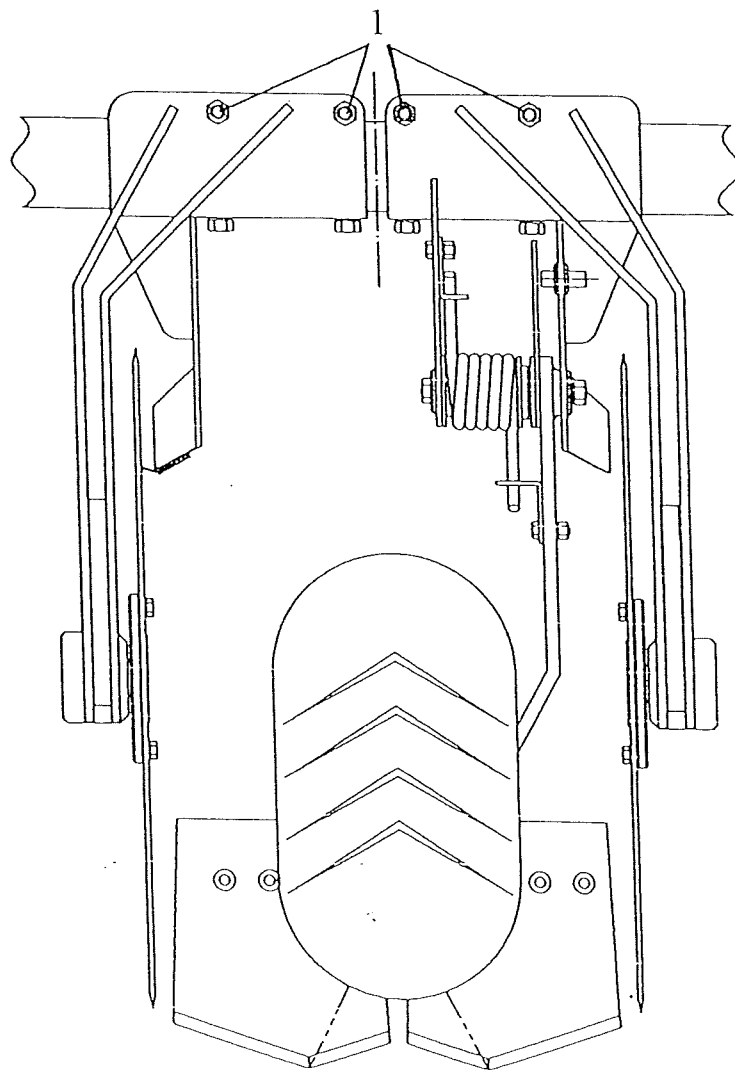

Fig 6.7
Each disc assembly is attached to a common cross beam. The clamp bolts should be loosened to allow the disc to be moved sideways to the required position (fig 6.7 item1) . when the shares have been correctly set (section 6.3.1) the discs should be adjusted to be approximately 20 mm clear of the edge of the share blade (fig 6.7). all discs should be adjusted equally. Tighten all disc mountings when adjustments are complete.